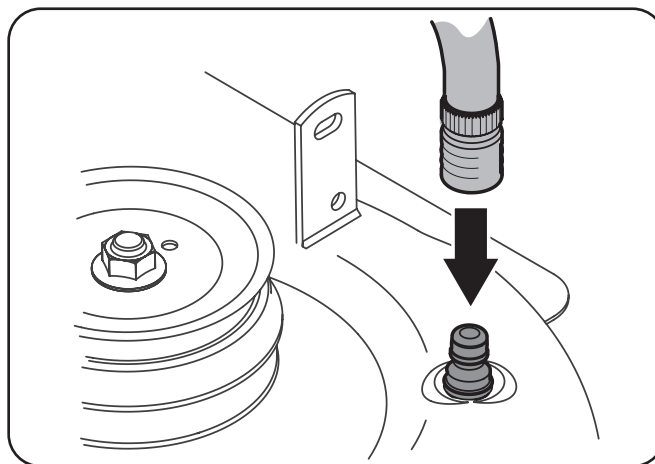

Figure 6-1
3. Attach garden hose with the deck wash nozzle to the water port on your deck's surface. See Figure 6-1.